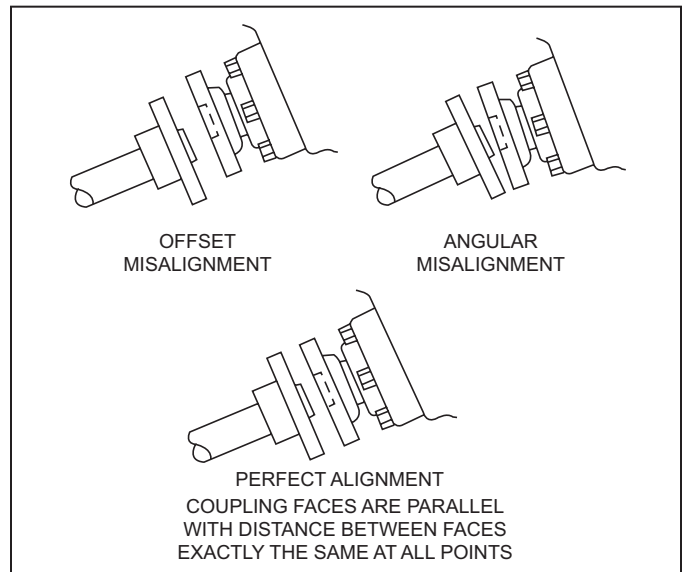

Figure 11-24 Shaft Mating Surface Check
1. With the engine at normal operating temperature, locate the oil pan quick drain hose and thread the hose through the boat's drain plug hole. (Figure 11-24). Remove the cap from the end of the quick-drain hose and insert the discharge hose into a suitable container. Allow the oil from the engine to drain until the crankcase is empty. Reinstall the cap onto the quick-drain hose and pull the hose back through the drain and secure the hose at the engine.
3. Check that the coupling center lines align by butting the propeller shaft coupling against the transmission coupling (Figure 11-24). The shoulder on the propeller shaft coupling face should engage the recess on the transmission coupling face, with no resistance.